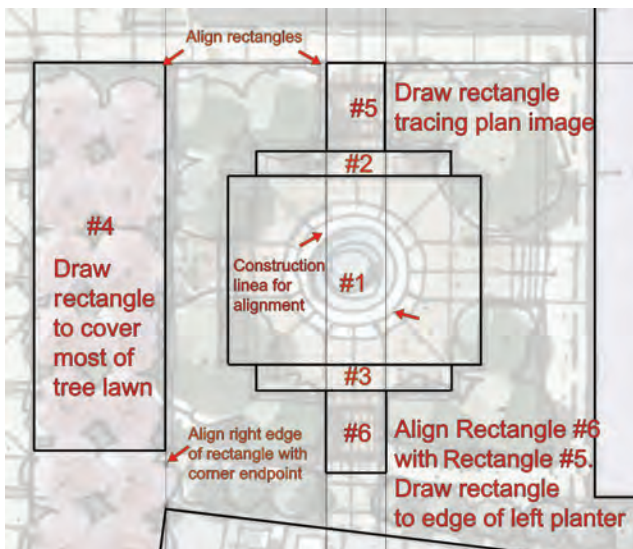

Fig. 7-12: Draw and align Rectangles 4, 5, and 6 as indicated.
3. Draft Rectangle 4. Place Rectangle 4 over most of the tree lawn area (pink trees). Align the right edge of the rectangle with the corner endpoint of the perimeter edge (Fig. 7-12).
4. Draw Rectangle 5 over the indicated linework of the plan image. Align the top edge of the rectangle with the top edge of Rectangle 4 (Fig. 7-12).
5. Draw Rectangle 6; make sure to align the rectangle with the right and left edges of Rectangle 5. Use construction lines to guarantee the alignment. The bottom edge of Rectangle 6 should end at the left corner of the planter indicated on the plan image (Fig. 7-12).